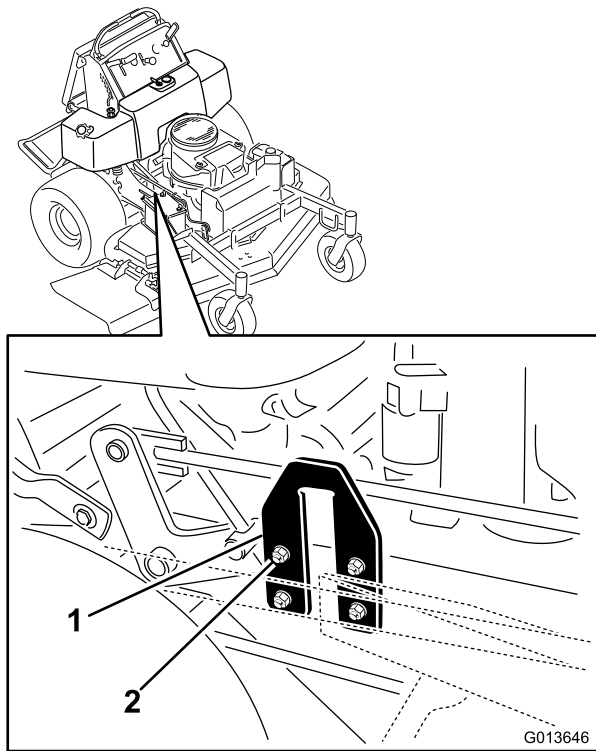

Figure 82
2. Locate the U-plates on the side of the engine deck (Figure 82).
3. Loosen the U-plate on one side and adjust it up or down to make the difference between measurements **B** and **C** no more than a 1/4 inch (6 mm) (Figure 82).